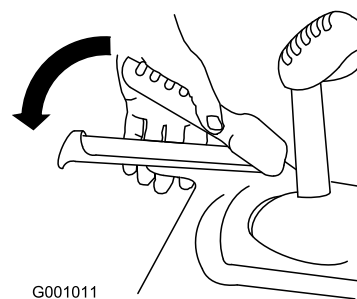

Figure 34
1. To engage the traction drive, squeeze the left (traction) lever to the handgrip (Figure 34).